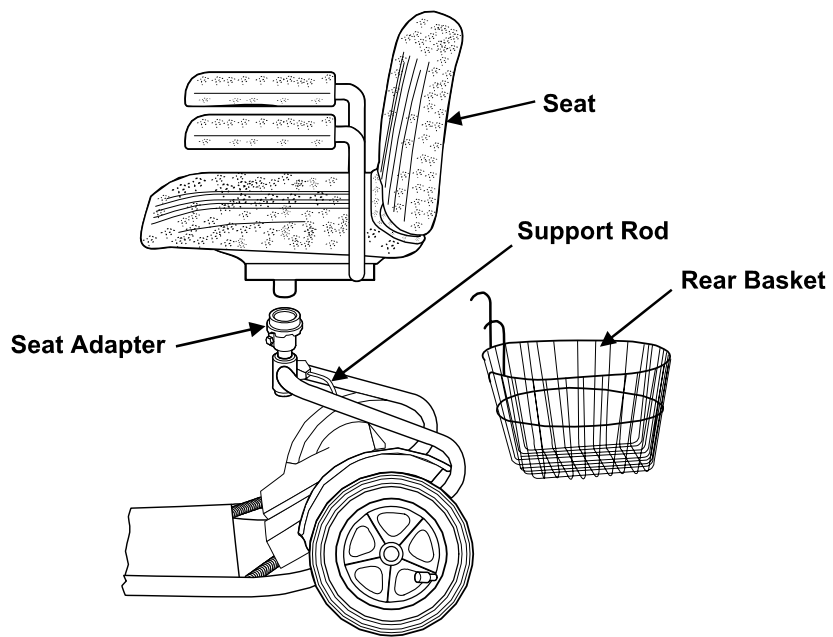

Figure 15.
4.2 Removal of Seat (See Fig. 15)